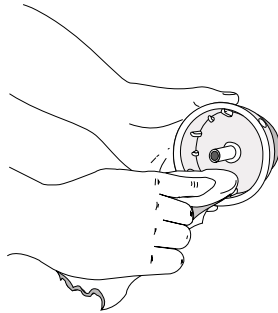

Fig. 14
4. Use a clean cloth to clean the the inner reel, spring, shaft, and inner surface of the outer spool (Fig. 14).